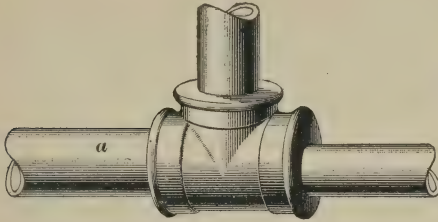

FIG. 48
**64.** Offset fittings can also be had in the form of tees, crosses, couplings, etc. Fig. 48 shows an *eccentric tee*. The object of this fitting is to prevent lodging places for water in the main *a*, which is always the case where the ordinary reducing fitting placed horizontally is used.